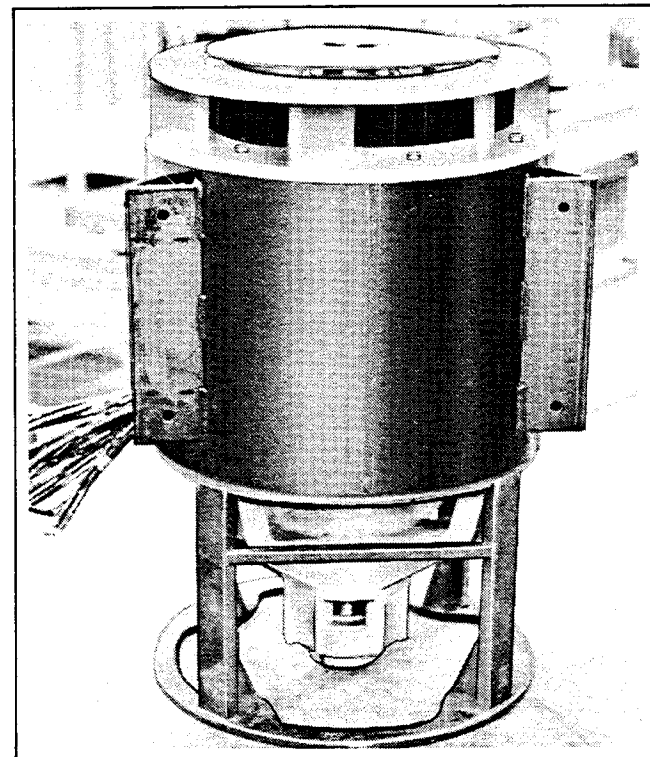

Figure 5-5. Cradled Generator Assembly
14. Lower generator assembly to rest in suitable cradle as shown in Figure 5-5.